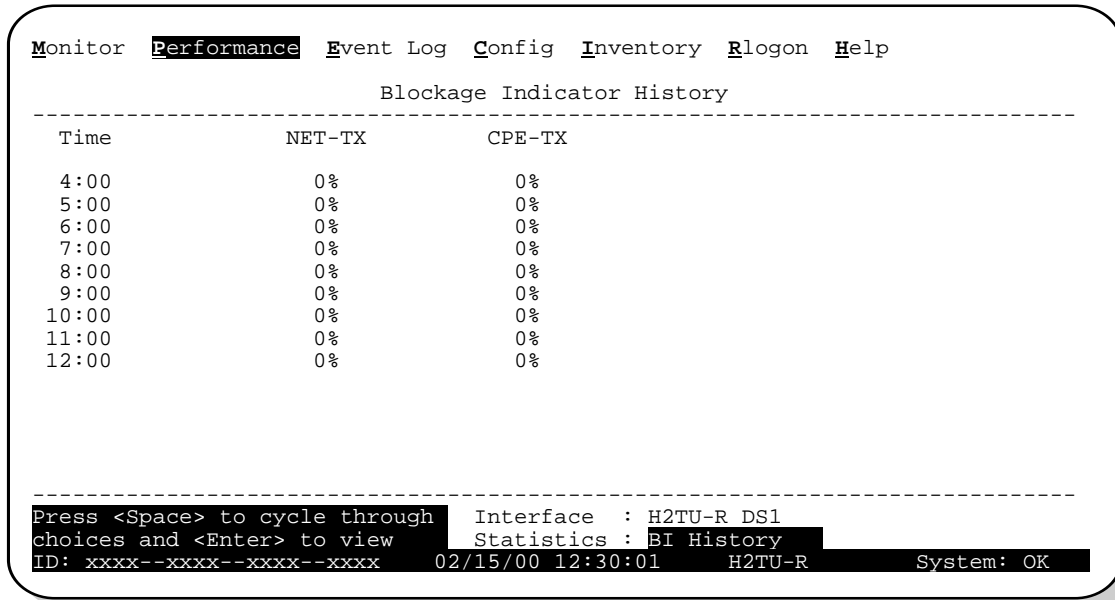

Figure 18. H2TU-R Blockage Indicator History Screen
- Following a remote logon, Blockage Indicator statistics for the current hour and the last 8 hours at the H2TU-R DS1 interface (Figure 18 on page 33).
Figure 18 is an example of an H2TU-R Blockage Indicator (BI) History screen as viewed from the line unit following a remote log on. This screen can also be viewed when logged on locally at the remote unit. The BI statistics can also be retrieved using inband or Facility Data Link access.